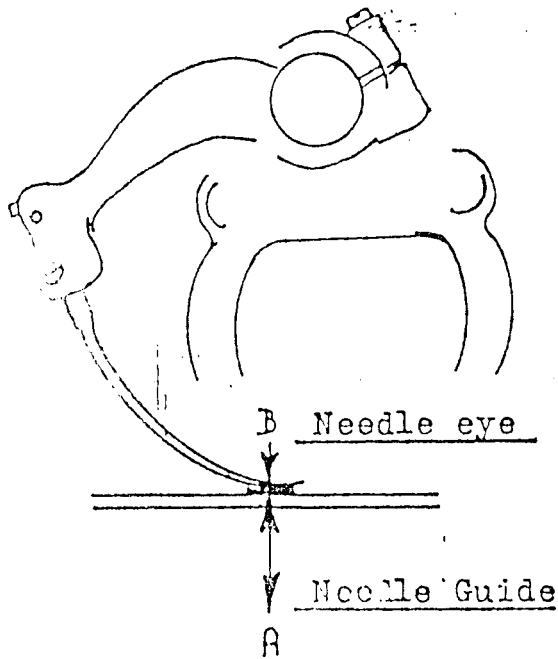

Fig. 9
Needle must rest on guide as shown at Point "A" and "B" Fig. 9.
- 1 - To regulate the needle penetration in the material, use regulating dial "A" Fig. 9 this dial appears at the front right hand side of the machine.
- 3 - If the needle fails to catch bottom layer of material turn dial "A" counter clockwise for more penetration as shown at Fig. 9.